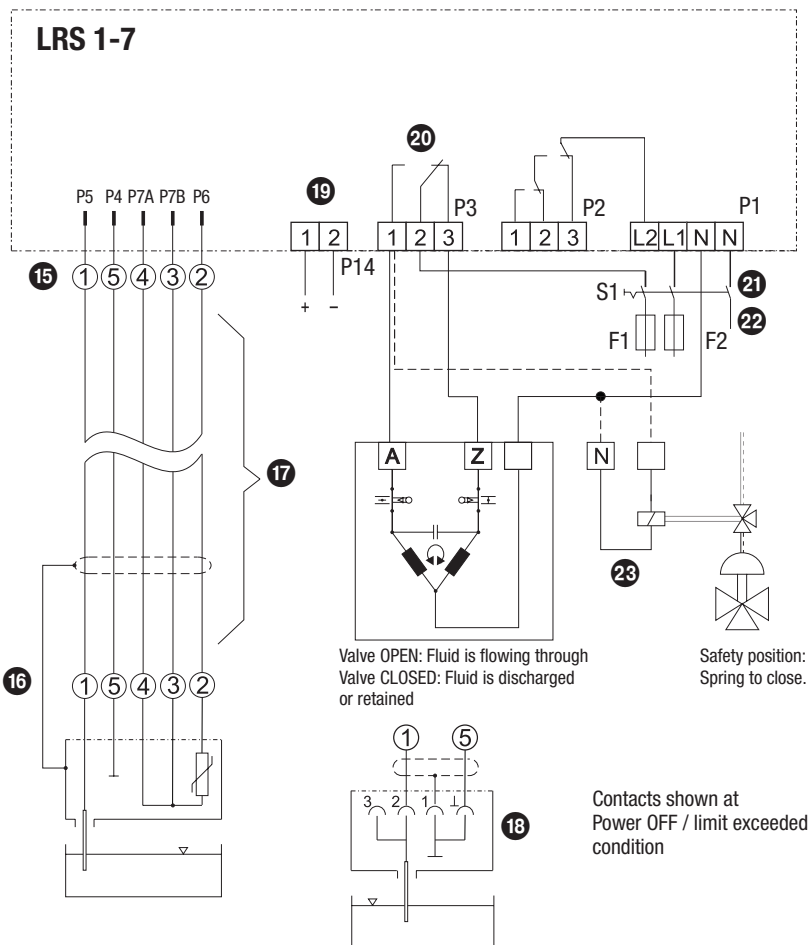
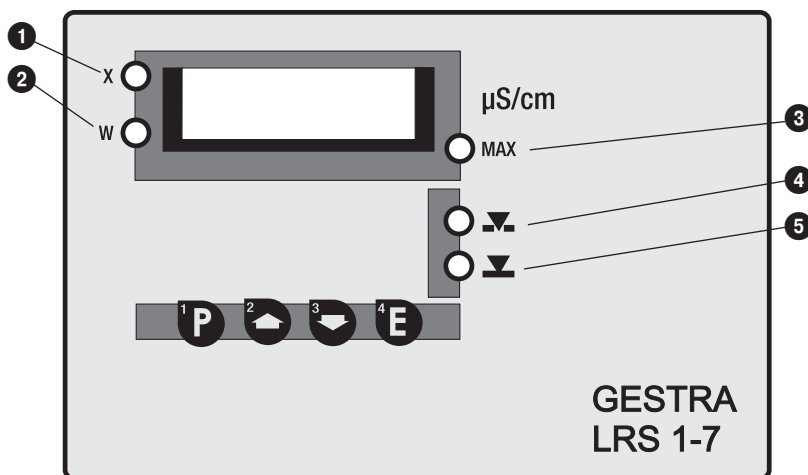

**Fig. 4**
**Fig. 5**
The conductivity electrode LRG 16-9 and the conductivity switch LRS 1-7 are equipped with M 12 sensor connectors with 5 poles and A coded; for connection see **Fig. 4** and **Fig. 5**. For connecting the equipment control cable assemblies (with male and female connectors) of various lengths are available as add-on equipment.
- If the above-mentioned control cable assembly is not used, the connecting line must be provided with a connector and a screened jack according to the wiring diagram **Fig. 4**.
- Connect the screen in the connector of the conductivity electrode, see wiring diagram **Fig. 4** and **Fig. 5**.